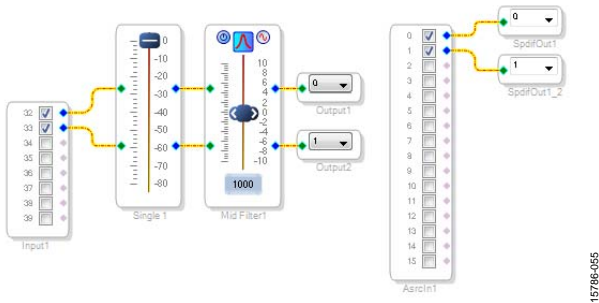

Figure 54. Completed Signal Flow
- Connect the filter in series between the **Asrc Input** block and the **Spdif Output** blocks so that the filter can be applied to the signals passing through the DSP. The completed signal flow resembles Figure 54.